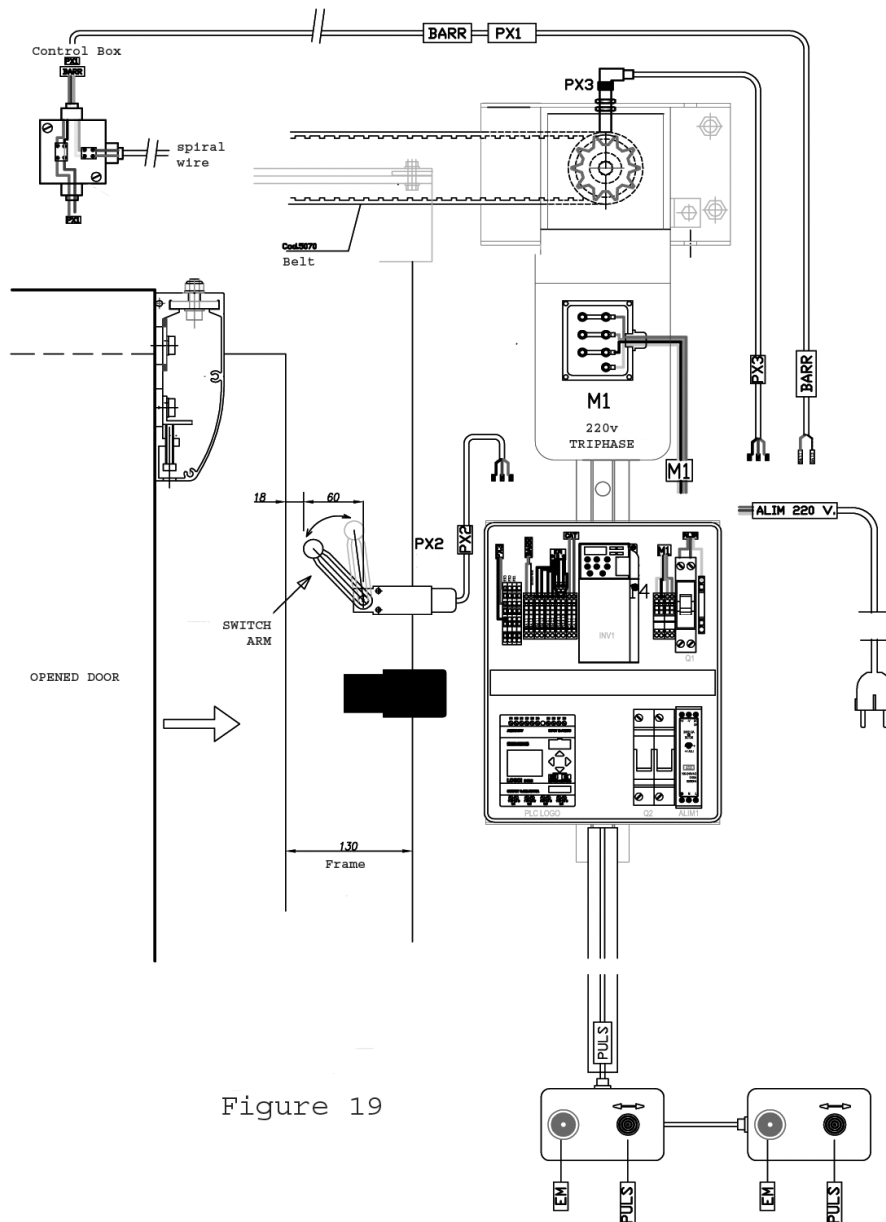

Figure 19
1. Mount the switch PX2, door closed, in the frame side handle with its own screws (see fig.17). Put the slope of the arm like shown in fig.19 in the next page.